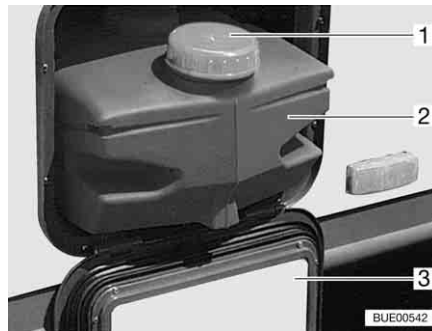

Fig. 188 Water tank 22 l
When transporting the water tank, close it with the cap (Fig. 188,1).
- Open service flap (Fig. 188,3) (see chapter 6).
- Pull out the water tank (Fig. 188,2).
- Pull out the water tank (Fig. 188,2) and empty it.